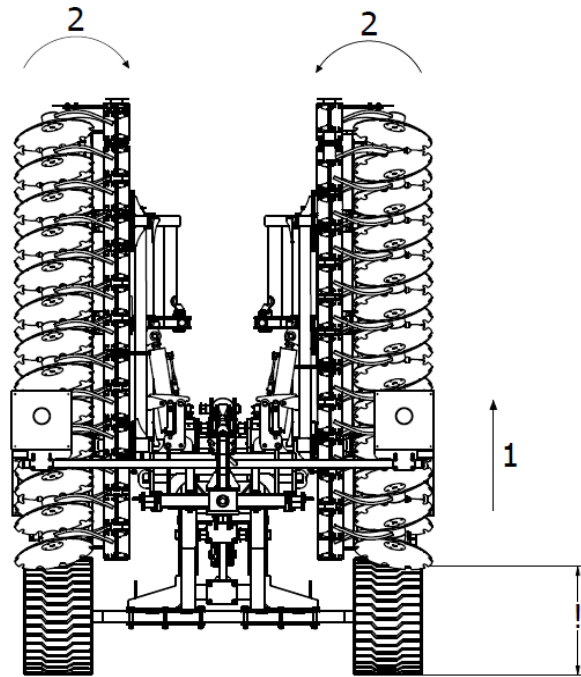

Fig. 5 Implement opening sequence: 1- raise the implement up to the maximum, 2- fold the side extensions into the “closed” position.
1. First, raise the implement as much as possible to be able to fold it correctly, avoiding the risk of the folding arms catching on the ground during movement (Fig. 5).
2. Next, fold the implement side extensions hydraulically into the “closed” position to ensure that the side extension lock mechanism will unlock and allow the implement arms to be opened at a later stage. This operation is necessary each time the arms are opened (Fig. 5).